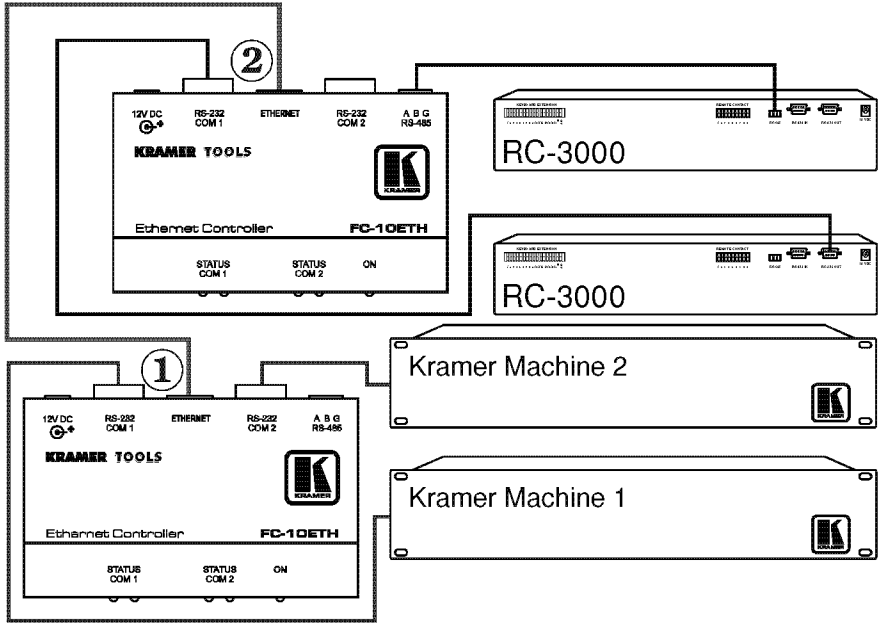

Figure 14: Connecting the FC-10ETH in the Active Routing Mode
To control a Kramer machine via **RC-3000** controllers (in the Active routing mode), as the example in Figure 14 illustrates, do the following:
6. Connect units ① and ② to your network or Ethernet router, as illustrated in Figure 14.
- Connect the RS-232 COM 1 port of the **FC-10ETH ①** to the RS-232 port of your machine 1 (for example, a Kramer machine) via a Null modem
- Connect the RS-232 COM 2 port of the **FC-10ETH ①** to the RS-232 port of your machine 2 (for example, a Kramer machine) via a Null modem (alternatively, you can connect the RS-485 port of unit ① to the RS-485 port of your Kramer machine¹).
8. Connect up to two remote controllers to unit ②:
- Connect the RS-485 terminal block on the remote controller (1) (for example, **RC-3000**) to the RS-485 terminal block¹ port² on the **FC-10ETH ②**
- Connect the RS-232 port on the remote controller (2) to the RS-232 COM 1 port on the **FC-10ETH ②**
- **FC-10ETH ①**³
- **FC-10ETH ②**³